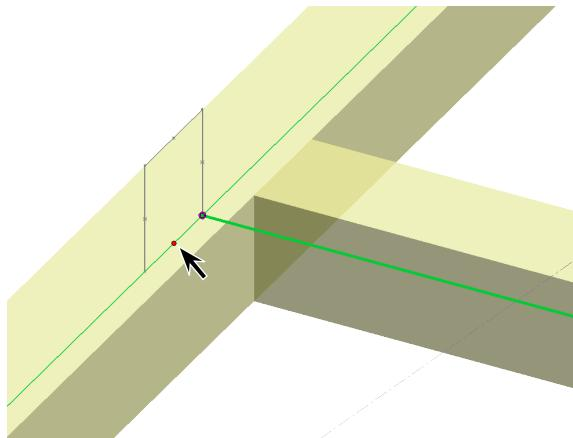

Fig. 25
Step 16. Click **BOTTOM MIDDLE POINT** of profile sketch, Fig. 25.